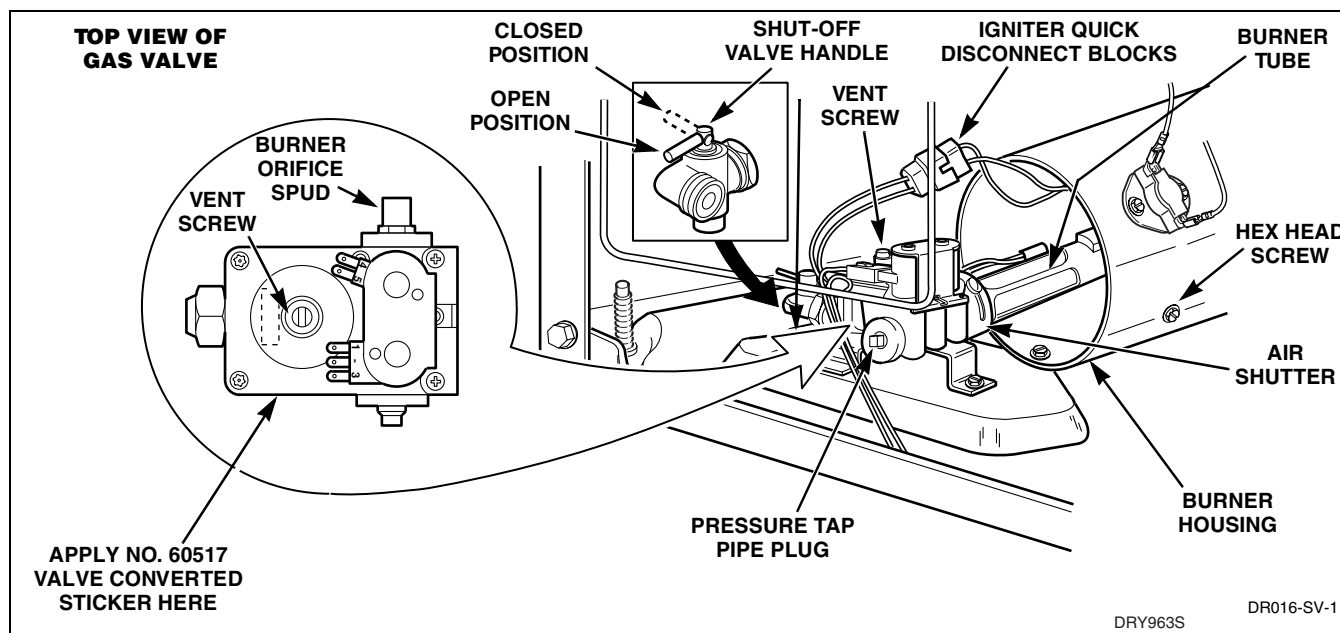

Figure 41
To reduce the risk of fire and explosion, reach in through access door opening and turn the gas line shut-off valve handle to the closed position. Refer to *Figure 41*.
- Disconnect igniter wires at quick disconnect blocks. Refer to *Figure 41*.
- Remove hex head screw holding burner tube and igniter in place. Refer to *Figure 41*.
- Remove vent screw and install No. 58754 Block-Open Plug. Refer to *Figure 41*.
- Install No. 60517 “Valve Converted to L.P. Gas” Sticker to top side of gas valve so it covers the gas valve part number. Refer to *Figure 41*.
- Turn the gas line shut-off valve handle to the open position and connect electrical service. Refer to *Figure 41*.
- (1) Remove pressure tap pipe plug. Refer to *Figure 41*.
- (3) Start dryer, pressure should be 10 ± 1.5 inches (25.4, ± 3.8 cm). Refer to *Figure 41*.
- (4) Stop dryer and remove “U” tube and reinstall the pressure tap pipe plug. Refer to Figure 41.